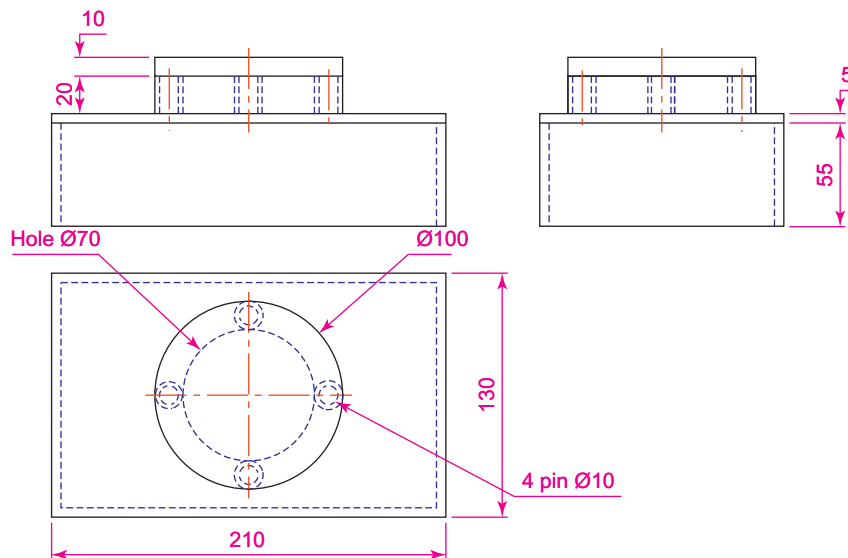

Fig. 14.27 Example – **Section Plane** – orthographic projection
1. Construct a 3D model to the information given in Fig. 14.27 on layers of different colours. Note there are three objects in the model – a box, a lid and a cap.